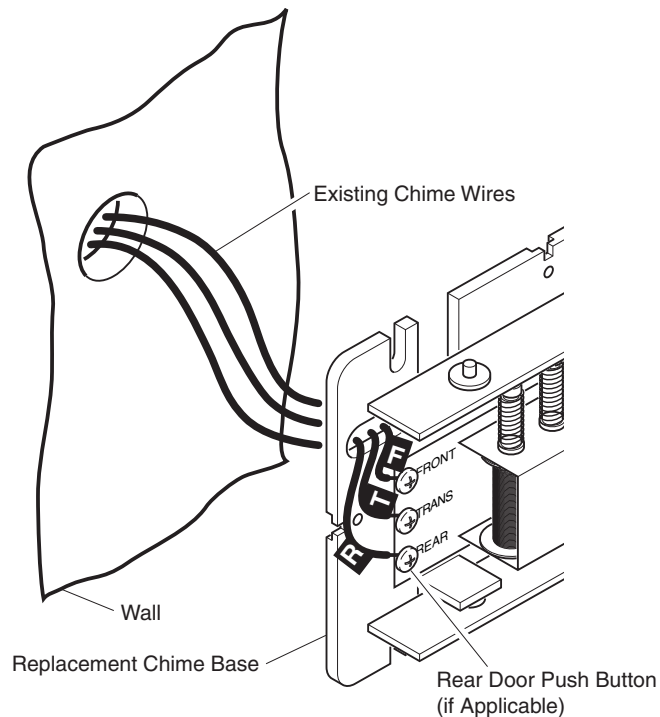

**Figure 1 - Mechanical Chime Identification
7. Determine cover mounting type. For hang pin and hole type covers, hang pin should be installed before mounting base to wall. Install hang pin by snapping into mounting hole or sliding onto chime base, depending on type of hang pin (see Figures 1 and 3).